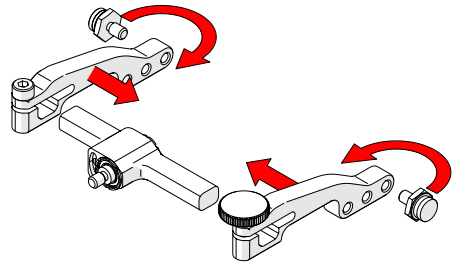

Fig. 165 - Attach arms and move buttons
4. Place the pivot buttons on the inside of the probe holder arms (Fig. 165) using a 3/8 in wrench (Fig. 69). Slide the arms onto the yoke and tighten the probe holder arm adjustment knob and the arm clamp screw.